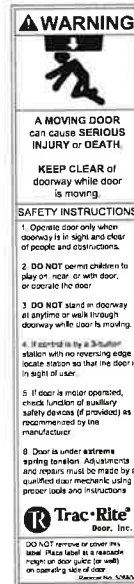

Figure 17.
9.3 Attach guide warning label (shown in Figure 17) to the guide at eye level.
9.4 Attach tension adjustment warning label (shown in Figure 17) either on the door bracket with the tensioner or to wall at eye level.